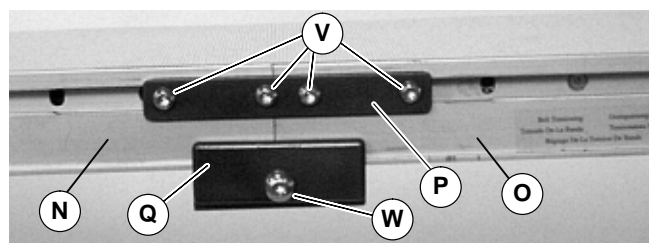

Figure 7
6. Loosen connector strip screws (V) and mounting bracket screws (W) on both sides of the conveyor.
7. Join conveyor sections (N and O of Figure 7). Position mounting bracket (P and Q) across conveyor sections.